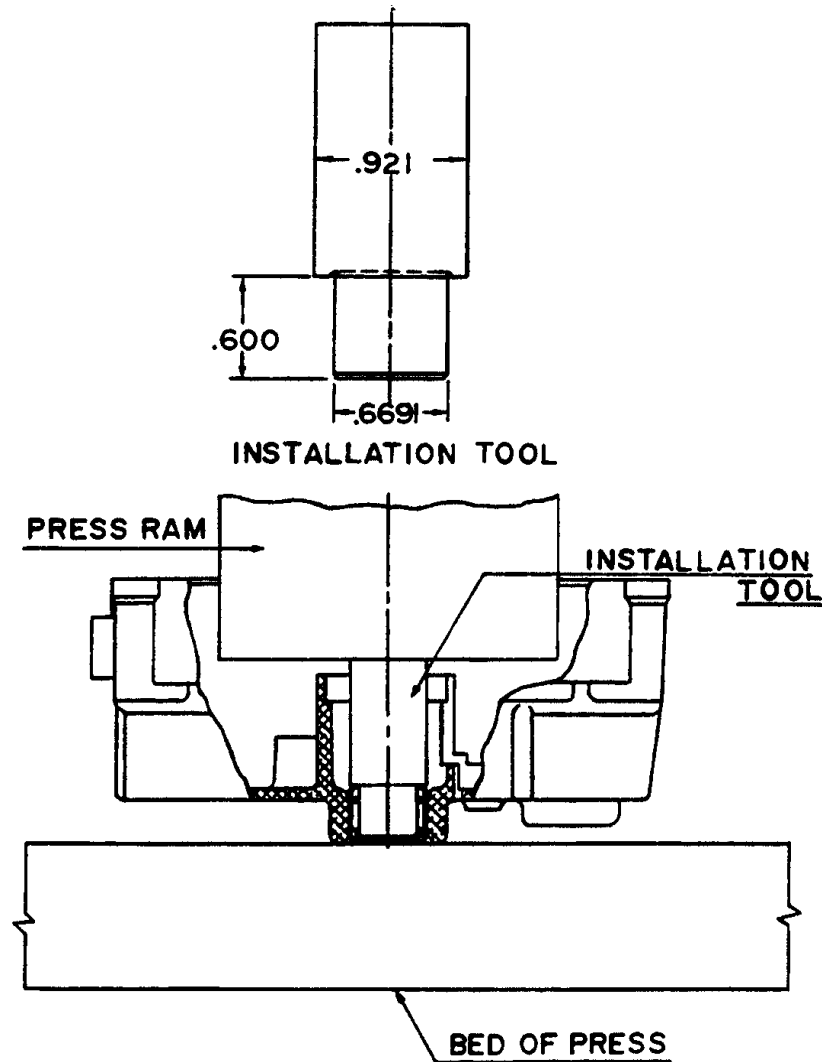

FIGURE 5
1. Use an arbor press and the tool shown to install a new bearing (37). Support the housing (29) by the bearing boss to prevent breakage of the casting. Press the bearing in flush with the outer boss of the housing. Use extreme care to avoid misalignment or otherwise overstressing the bearing. (See Figure 5.)